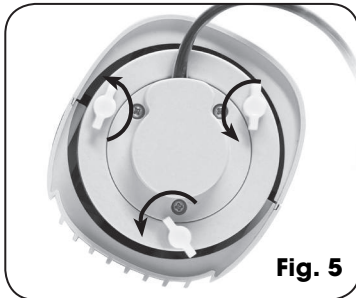

Fig. 5
2. To assemble the base stand, place the tower fan body on its side. Remove the 3 fastening screws from underneath the tower fan section of the fan and set aside. (See Fig. 5).